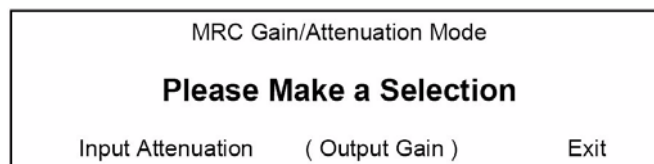

FIG. 33 MRC Gain/Attenuation Mode - Output Gain
1. From the *MRC Gain/Attenuation Mode* screen, select “**Output Gain**” (FIG. 33):